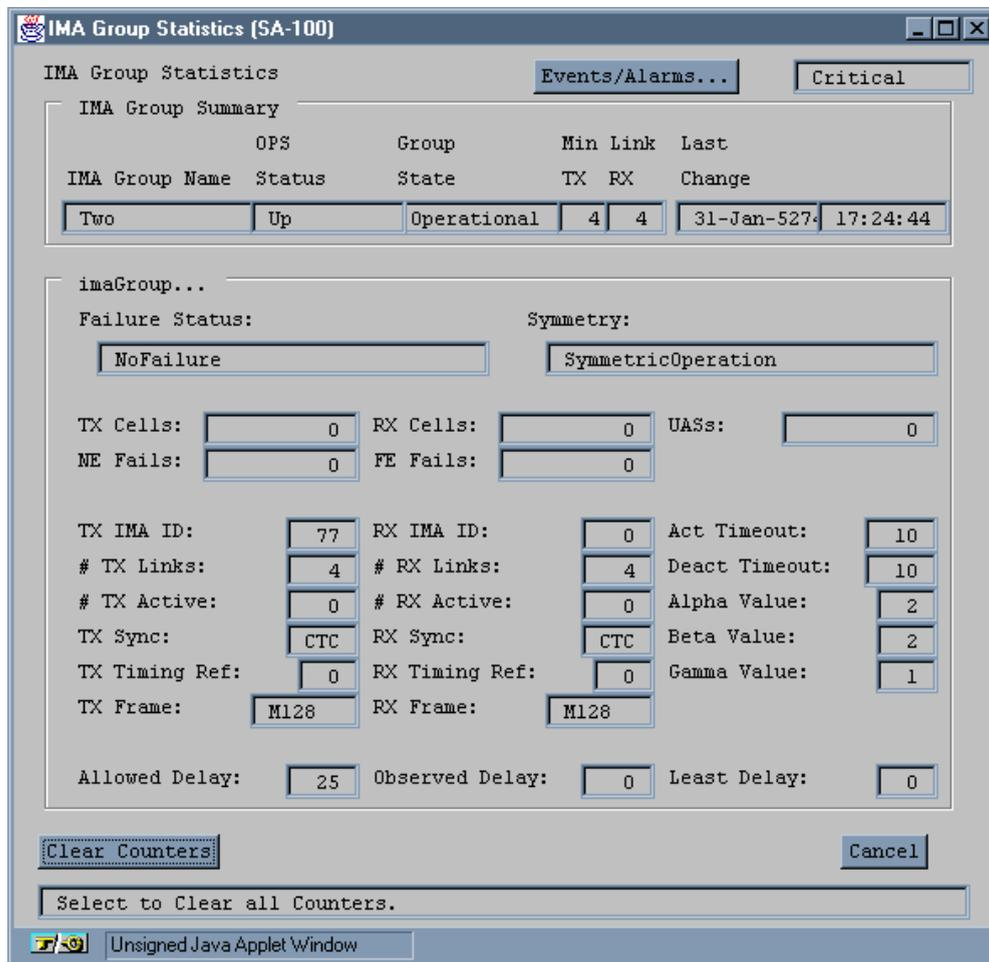

Figure 4-13. IMA Group Statistics Window
2. Select the Group Stats button. The IMA Group Statistics window appears (Figure 4-13):